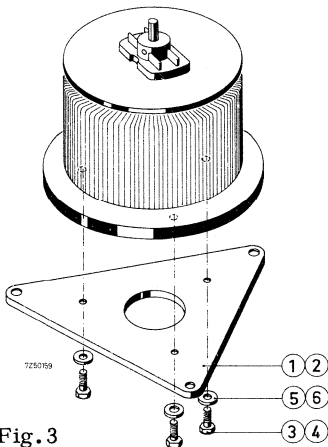

Fig. 3
2. Attach a coupling plate pos. 1 or 2 to the transformers; see Fig.3.